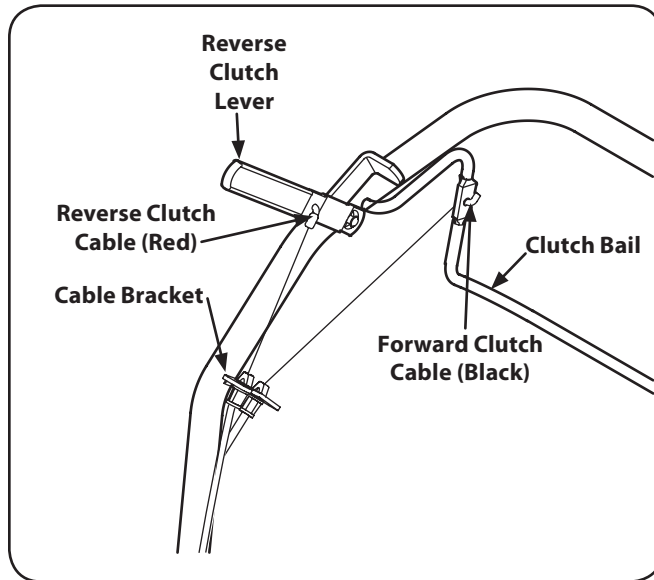

Figure 3-4
1. Carefully unwrap the reverse clutch cable (Red) from its shipping position. Pull the cable up through the top hole in the cable bracket and push the cable connector up through the hole in the bracket until the groove in the connector snaps into place. See Fig. 3-4.
2. Place the Z-connector into the hole in the reverse clutch control. See Fig. 3-4.
1. Carefully unwrap the forward clutch cable (Black) from its shipping position. Pull the cable up through the bottom hole of the cable bracket and push the cable connector up through the hole in the bracket until the groove in the connector snaps into place. See Fig. 3-4.
2. Place the Z-connector into the hole in the forward clutch bail. See Fig. 3-4.